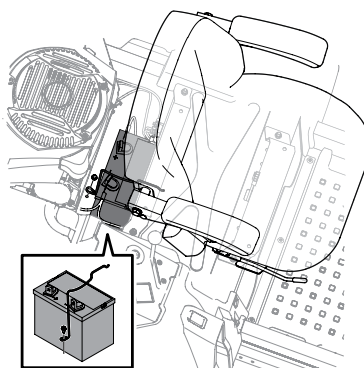

Figure 4-4
2. Remove the hex washer screw securing the battery hold-down bracket to the frame. Then flip the battery hold-down bracket up to free the battery. See Figure 4-4